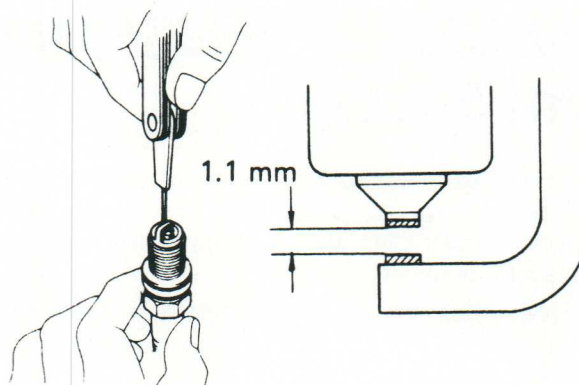

Figure 240-9
- If adjusting the gap of a **new** plug, bend only the base of the ground electrode. Do not touch the tip (Figure 240-9).